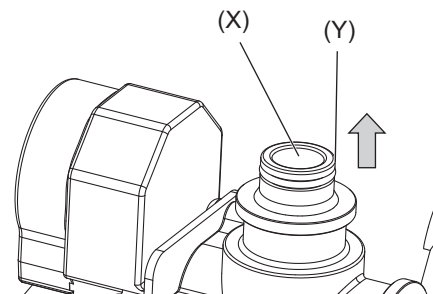

Fig.21
(4) Remove the nipple (X) (and O-ring (Y)) from the FCV. (Fig.21)
(5) After removing the nipple (and O-ring), check the O-ring on the sleeve for damage. If O-ring is damaged, replace the O-ring with a new one.
(6) Check the nipple grooves for dirt. If dirty, wipe them clean.
(7) Check the inner surface of the FCV and the inlet/outlet piping for dirt. If dirty, wipe them clean.
(8) Before attaching the O-ring to the nipple, apply a light coating of the grease that is listed in the service parts list evenly to the entire O-ring.
(9) Before inserting the nipple (with the O-ring) into the FCV and the inlet/outlet piping, apply a light coating of the specified grease evenly to their entire inner surface.
(10) After installing the FCV, re-attach the cover.